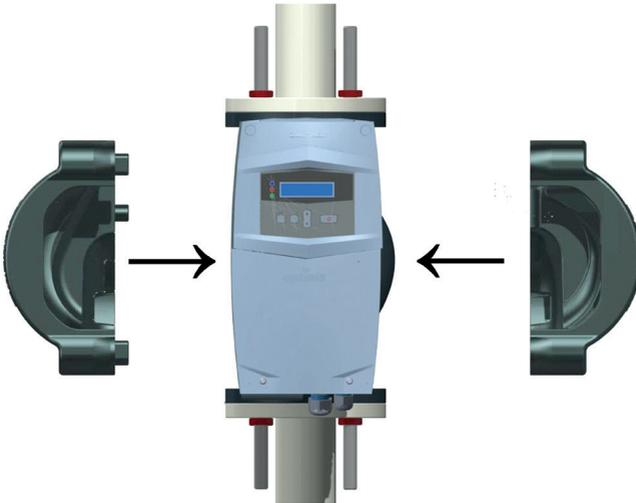

Figure 6.6: Placing the Insulation Shells
10. After the installation is completed, place the insulation shells as shown in Figure 6.6.